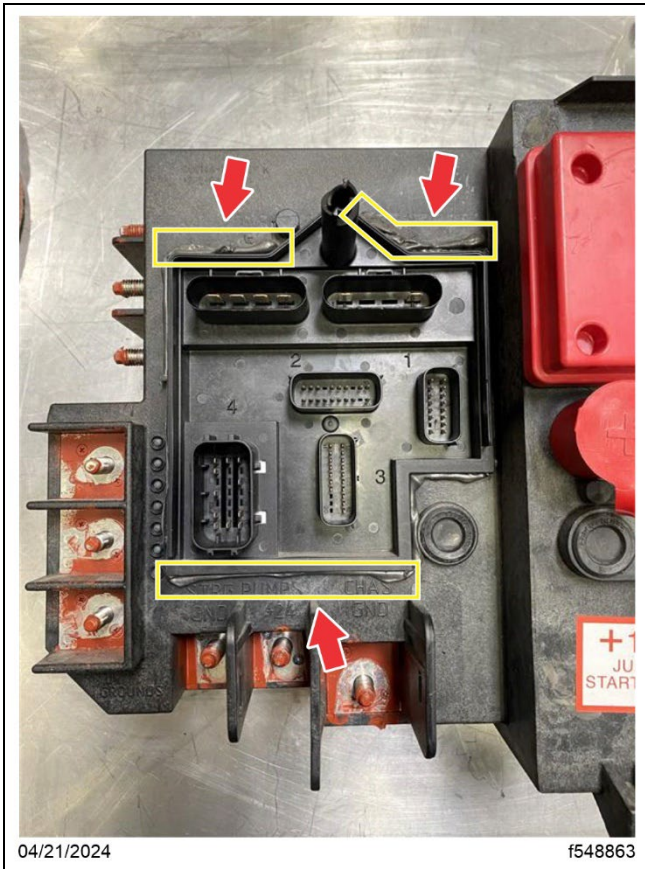
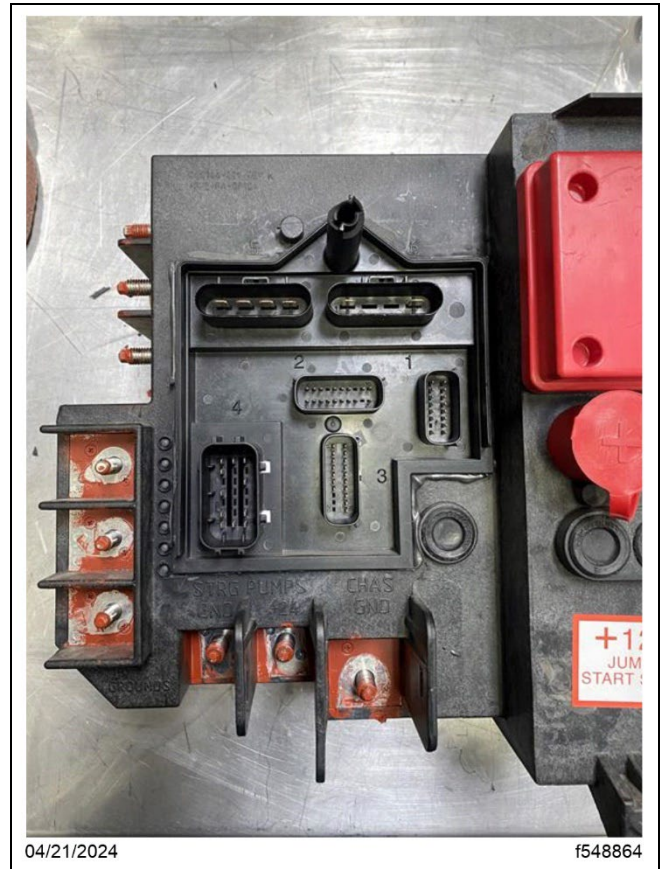

Fig. 4, Excess Sealant to be Removed Around the Connector Plate
Fig. 5, Sealant Removed
9. Cut away the excess sealant around the connector plate in the areas where the brackets attach. See Fig. 4 and Fig. 5.